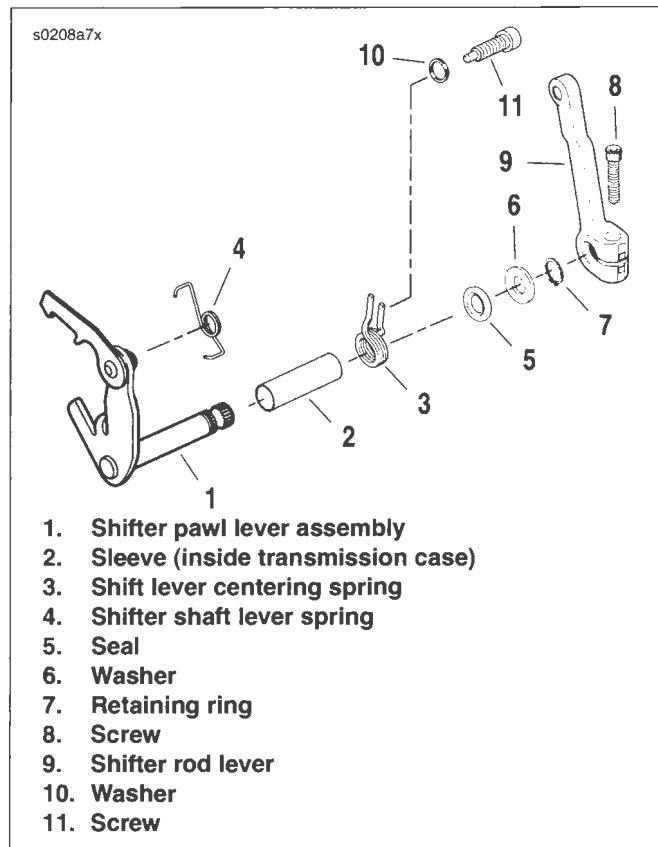

Figure 7-57. Shifter Arm Assembly
1. See Figure 7-57. After removing door assembly, remove screw (8) and shifter rod lever (9) from the shifter pawl lever assembly (1).
2. Remove retaining ring (7), washer (6) and seal (5). Discard retaining ring and seal. Pull shifter pawl lever assembly out of the transmission case.
3. Inspect sleeve (2) inside transmission case.
3. See Figure 7-57. Inspect the shifter pawl lever assembly (1) for wear. If pawl ends are damaged, replace assembly.
1. See Figure 7-57. Verify that sleeve (2) is inside transmission case.
6. See Figure 7-57. Install shifter rod lever (9) on the shifter pawl lever assembly shaft end using screw (8). Tighten to 18-22 ft-lbs (24.4-29.8 Nm).